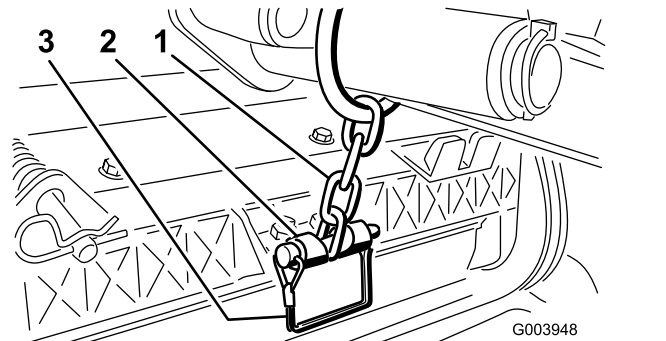

Figure 12
3. Secure the lift-arm chain to the chain bracket with the snapper pin (Figure 12).